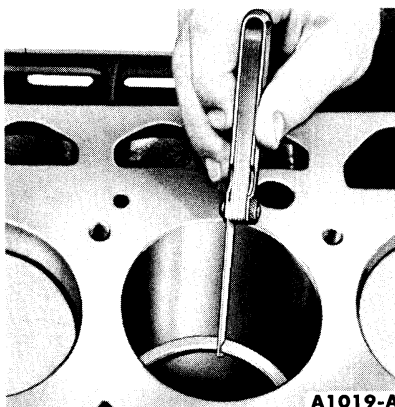

FIG. 43—Piston Ring Gap
5. Measure the gap between the ends of the ring with a feeler gauge (Fig. 43). If the ring gap is less than the recommended lower limit, try another ring set.